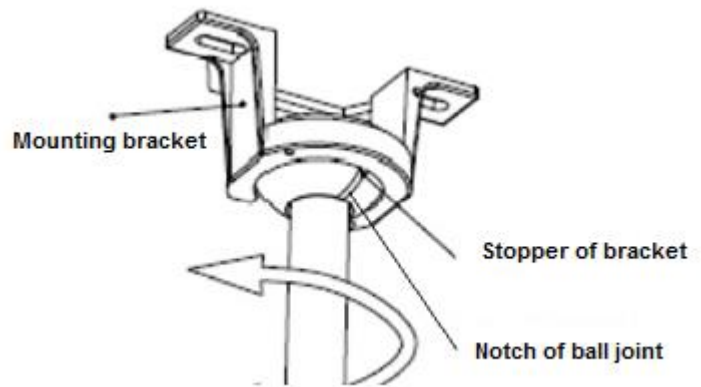

Fig. 5
- Ensure the notch of the ball joint is positioned on the stopper of the mounting bracket to prevent the fan from rotating when in operation. Fig. 5